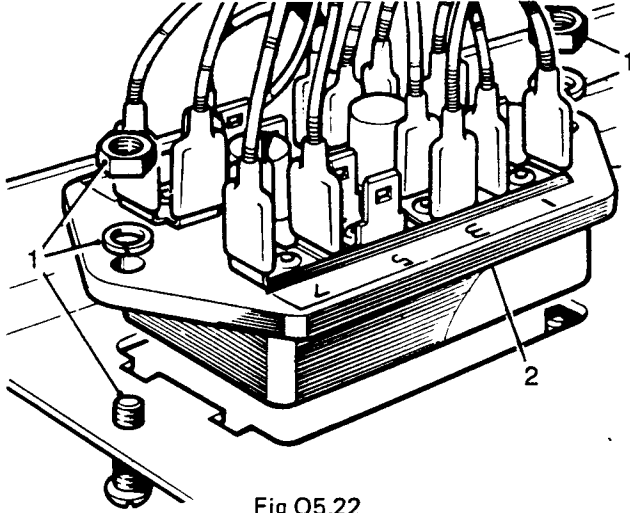

Fig O5.22
- (3) Refer to Fig O5.22. Disconnect all leads from the fuse box.
- (4) Remove the fuse box fixings (1) and (2) and lift the fuse box out of the lower shroud.